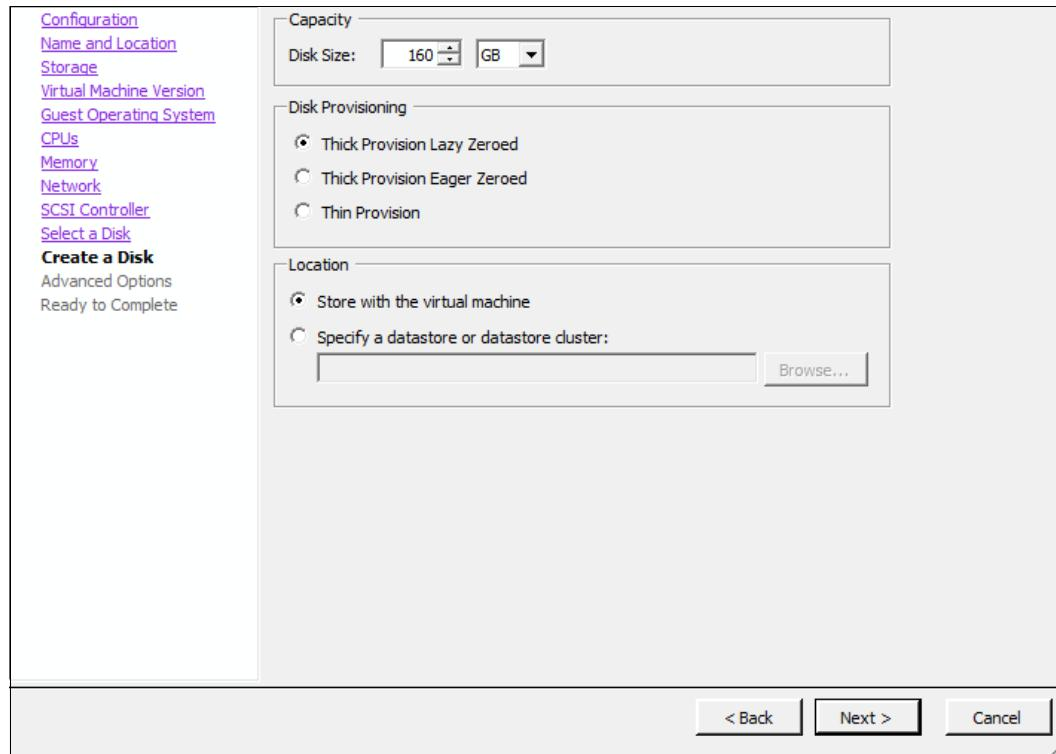

Figure 3-14 Choice of disk type and size
12. In the Create a Disk panel (Figure 3-14), choose your disk size, and click **Next**.